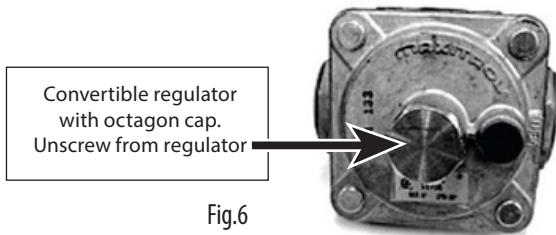

Fig.6
- Before installing the included convertible regulator, unscrew the octagon cap. You can read (NAT) on the plastic insert attached to the head of the cap; flip it over and snap back in place (Fig.6).